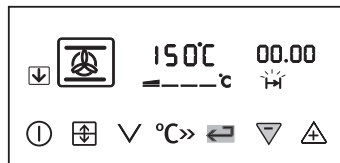

Fig.12.
- i) To cancel an automatic programme press the Time Selector button (  ) until the 'Cook Time' indicator neon (  ) flashes. Press the decrease control (  ) until the display reads 00.00 as Fig. 12.